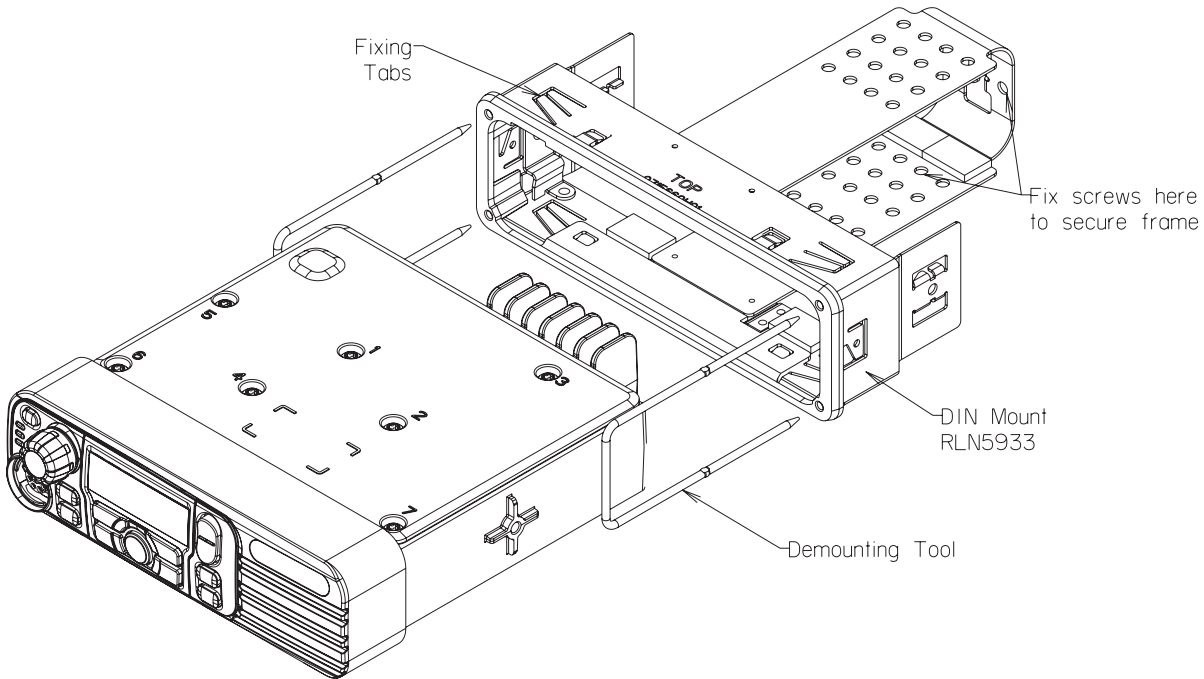

Figure 3-7 Dashboard Mounting
2. Plug in all the connectors and push the radio firmly into the mounting frame until the two springs snap into place (shown in Figure 3-7).